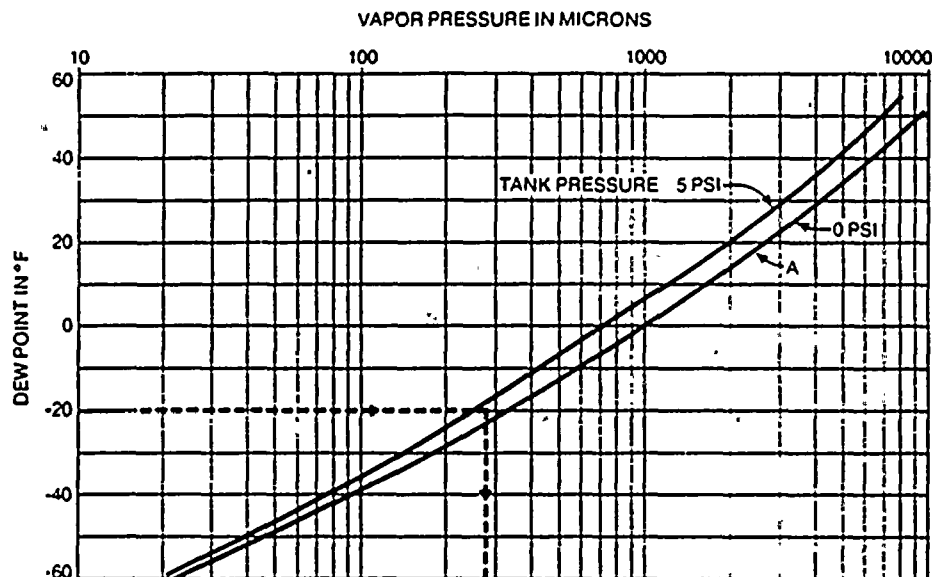

Figure 7. Curve A. Step 1: Enter toward Curve A with dew point in °F to determine vapor pressure in microns.
*Referring to the curves in Figures 7 and 8, McGraw-Edison Power Systems Group considers the area above Curve B as acceptable. Example: Measured dew point = -20F, tank pressure = 2½ psi, and insulation temperature = 20C. Enter toward Curve A from left and find approximately 260 microns. Enter toward Curve B from 20C at left to 280 microns. Intersection is in acceptable range.